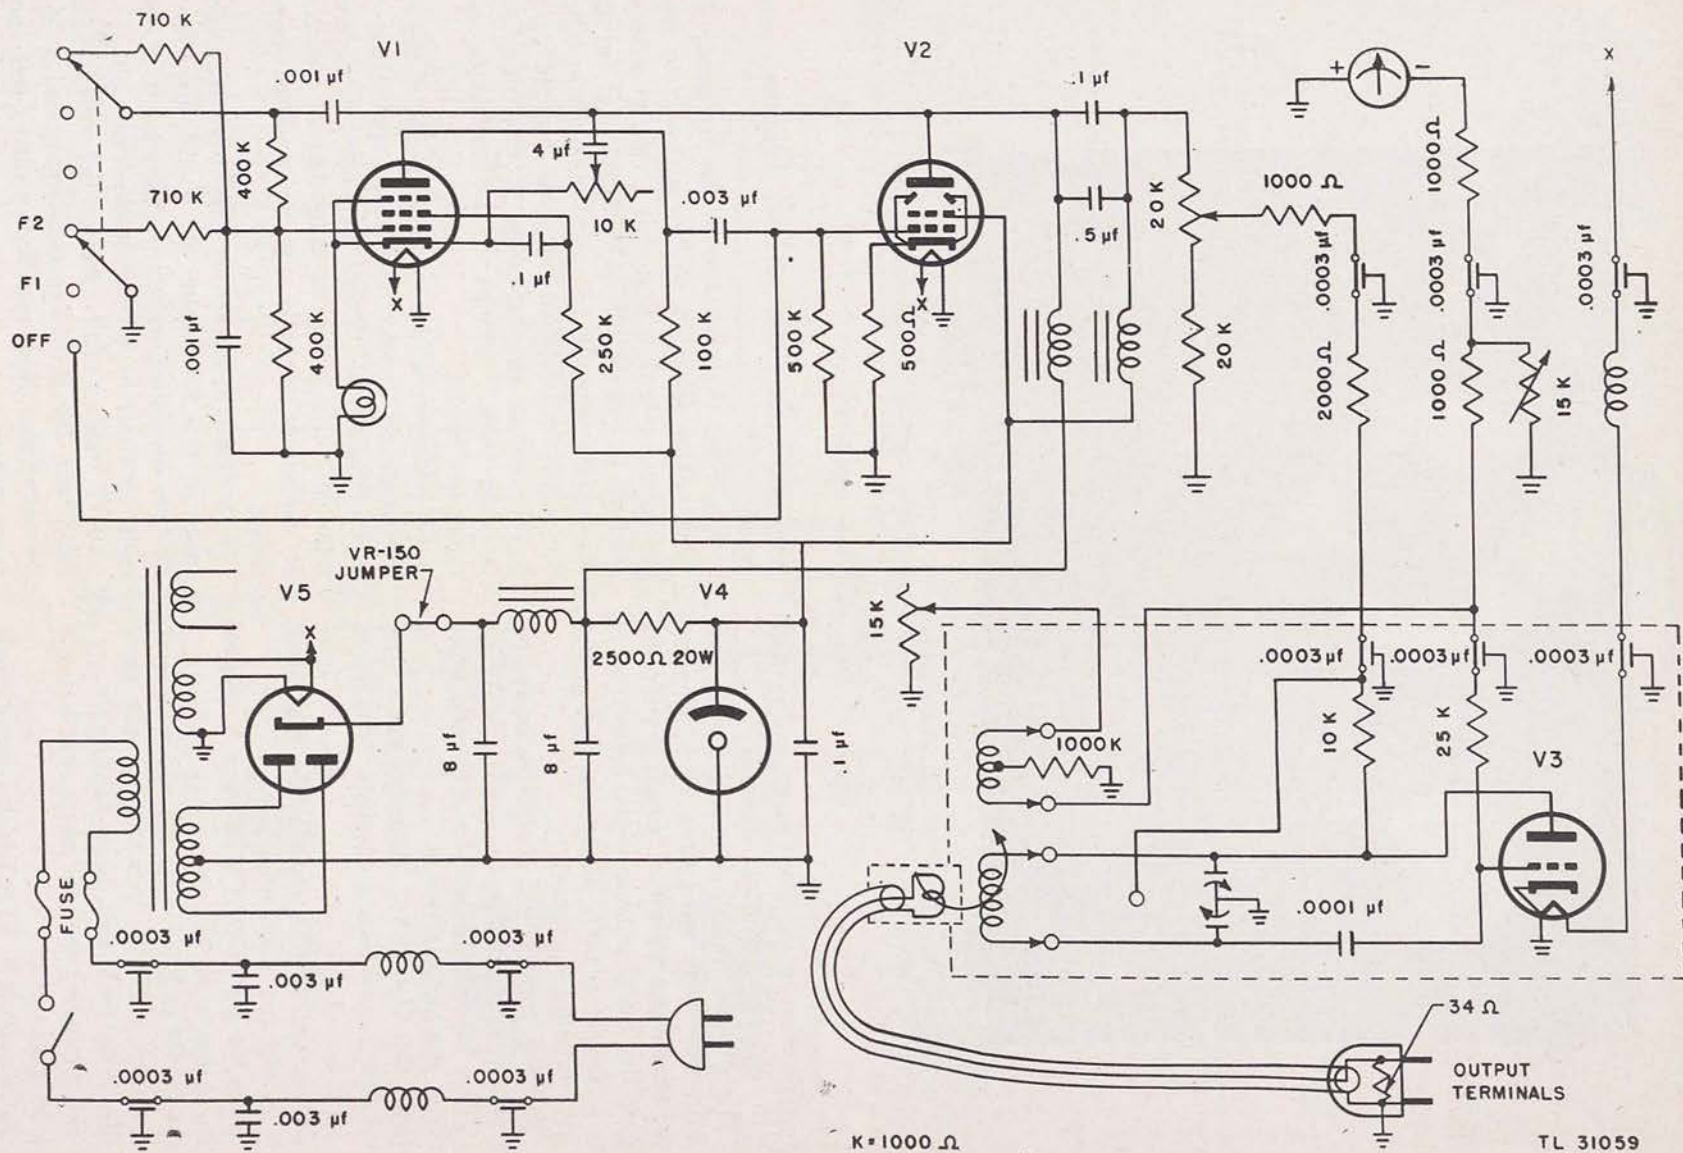

Figure 14. Measurements Corporation r-f signal generator, model 78C, schematic.
f. SCHEMATIC ANALYSIS (fig. 14). The following discussion is limited to the important parts of the signal generator.
b. RANGES. (1) 18 to 34 megacycles.